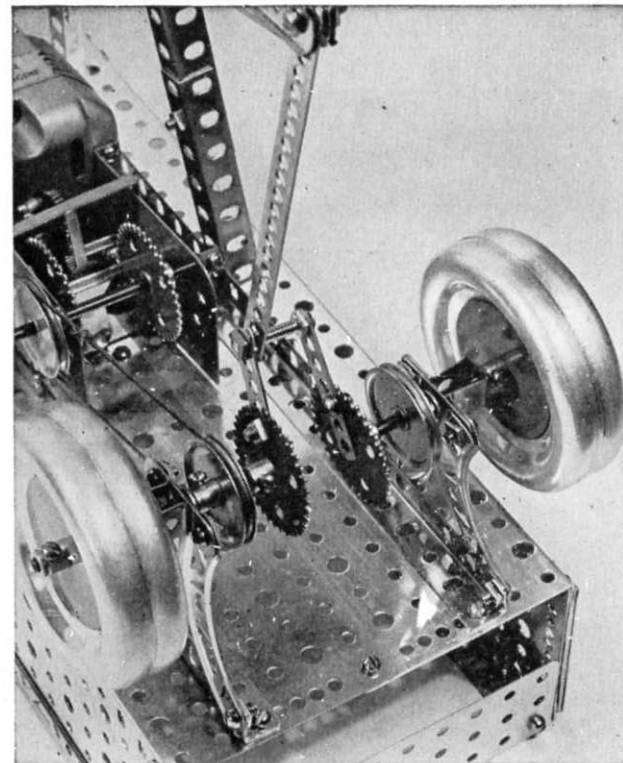

FIGURE 2
It is best to build this model as well as all other models from the bottom up. The base for this model is shown in Figure 1. The sides are each (MN) 12" base plates, the top is made from 2 (MN) 12" base plates. In Figure 2, you will see an (MF) 1" x 5" base plate fastened on the end to the sides of the base with (CH) right angles. On each side of the base is fastened an (A) 2½" girder and 2 (C) 10" girders.
In Figure 2 you will see a detail of the flywheel assembly. To the (DP) 12" angle girders are fastened 4 (D) 2½" curved girders. Across the top of these curved girders is fastened an (F) 5 hole strip and (P20) 5 hole strip—formed. On each side there are (AS) 2⅞" axles on which are fastened the 2 (MH) 3" disc wheels, P7 pulley and the (CJ) 36 tooth gear. On each 36 tooth gear is fastened a (G) 7 hole strip which is used as the eccentric arm to make the beam move in a see-saw fashion.